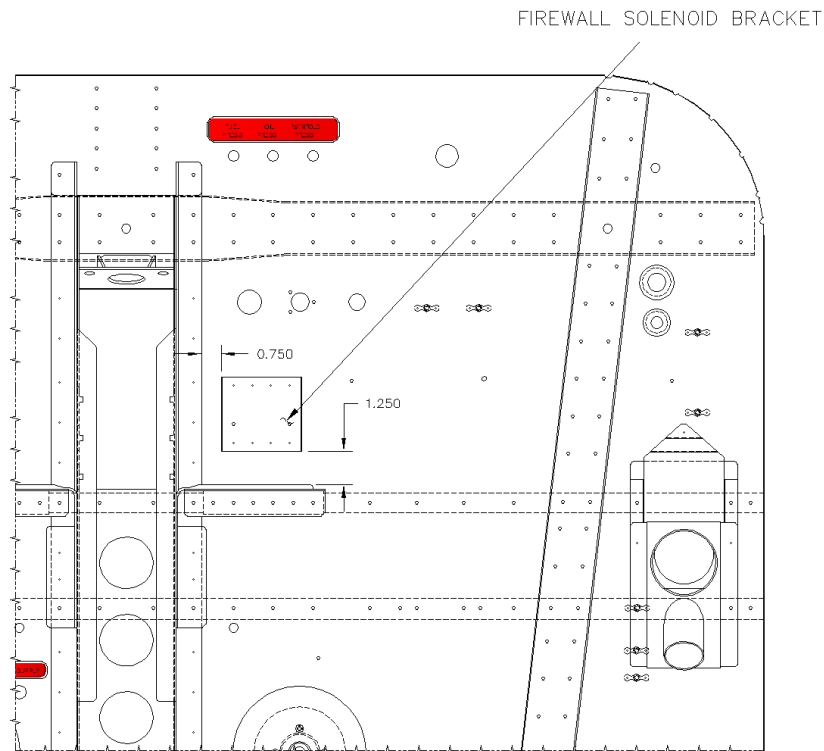

Figure 2: View Looking Aft on Firewall
12.1.5 Place the Firewall Solenoid Bracket (item 1) in position as per Figure 2 and back drill the 8 x $\varnothing 0.098$ " bracket mounting holes through the firewall. Open holes up to $\varnothing 0.128$ " and clip in location.